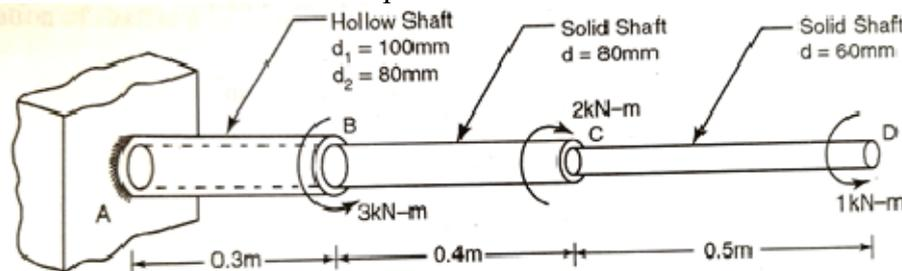

Fig. 8(b)
b. A stepped shaft is subjected to a torque as shown in Fig. 8(b). Determine the angle of twist at free end. Take $G = 80 \text{ kN/mm}^2$. Also find the maximum shear stress in all steps. **10** (3 :4: 1.7.1)